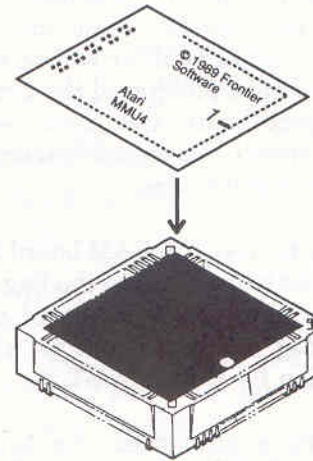

Figure 11 - MMU Orientation
(5) Now you must seat the MMU adaptor onto the top of the MMU chip in its socket. You can locate the MMU chip by following the diagrams on page 11. The MMU chip itself is labelled CO25912 or C100109 and is square. Along one side of the square MMU chip there is a small notch. This notch shows you which pin is pin 1. It should also correspond with a '1' written in white on the ST's circuit board. If there is a metal clip over the top of your MMU, remove it now with the flat bladed screwdriver.
(6) If you look at the XTRA-RAM MMU adaptor you will see a large one written next to one of the pins on the top side of the adaptor. This lines up with the notch on the MMU chip. Lining up the '1' on the adaptor and the notch on the MMU carefully push the MMU adaptor down onto the MMU in its socket. The three rows of pins around the edges of the MMU adaptor should press into the gaps between the socket's pins and the sides of the socket as shown in figure 11. Press it down until there is no gap between the adaptor and the top of the MMU socket. If you are upgrading a Type II ST then you will need to place a piece of thin card or thick paper over the top of the MMU adaptor to stop the top shielding shorting against it.
(7) Take the MMU adaptor's ribbon cable and the Video Shifter adaptor's cable and carefully route them out of the top of the shielding as you replace the top half of shielding. In an STF or STFM you can route the cables out via the power supply or disk drive holes and on an ST or STM you can bring them out via the hole just behind and above the video shifter box. (We recommend that you route the cable from the MMU adaptor in Type I and Type III STs through the power supply hole and the Video Shifter cable through the disk drive hole, in Type II STs this is reversed - the MMU cable should come out through the disk drive hole and the Video Shifter cable should exit through the power supply hole).
(8) Close up the top and bottom halves of shielding and refasten all of the twists. If you have an STF or STFM place the two halves back into the bottom case.
(9) Screw down the front edge of the shielding. If you are upgrading an STFM you can now screw down the front two screws into the power board's legs and replace the power board shielding top with the two small screws and two twists.
(10) Now you are ready to place the circuit board that contains the actual RAM chips inside your ST. You *must* follow the anti-static